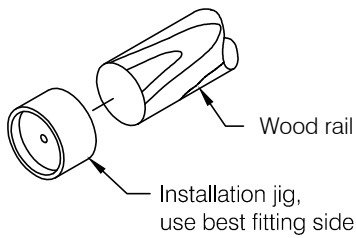

fig 3
- Step 4:** With wood rail cut to length use drill jig to locate and drill mounting hole for aluminum insert at all locations that will receive a wall return or corner accessory, see **fig 3**. With drill jig seated flush against end of rail drill into wood a minimum of 1" deep using a 3/16" diameter drill bit in the jig center hole.